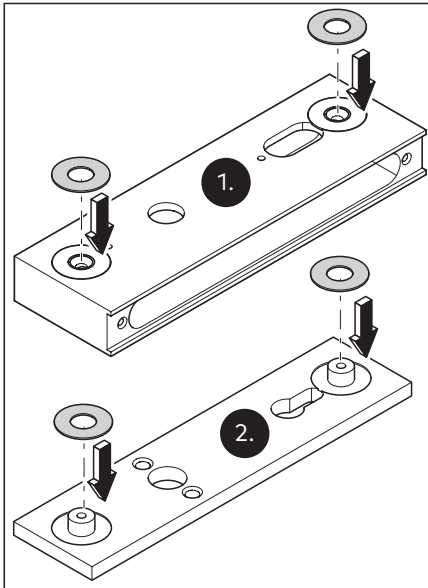

Fig. 29 Attach the gaskets.
1. Attach the gasket to the lock mortise on the glass side (Fig. 29).